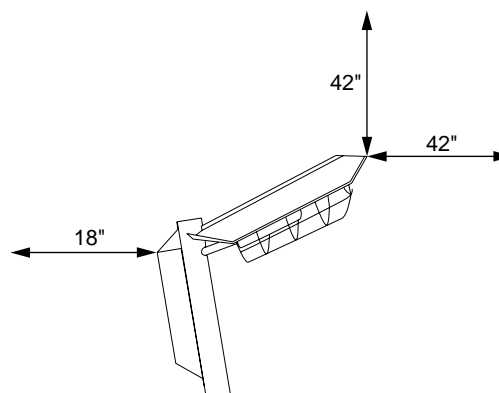

Figure 1 - Clearances from Combustibles
- Minimum heater clearances from combustibles: Back: 18 inches; Top, Front and Sides: 42 inches (see Figure 1, page 3).